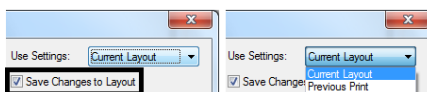

Fig. 330 – selecting a print layout – the current or the previous one
- in here it can be also determined, which settings should be displayed – of the current or of the previous layout (Fig. 330);